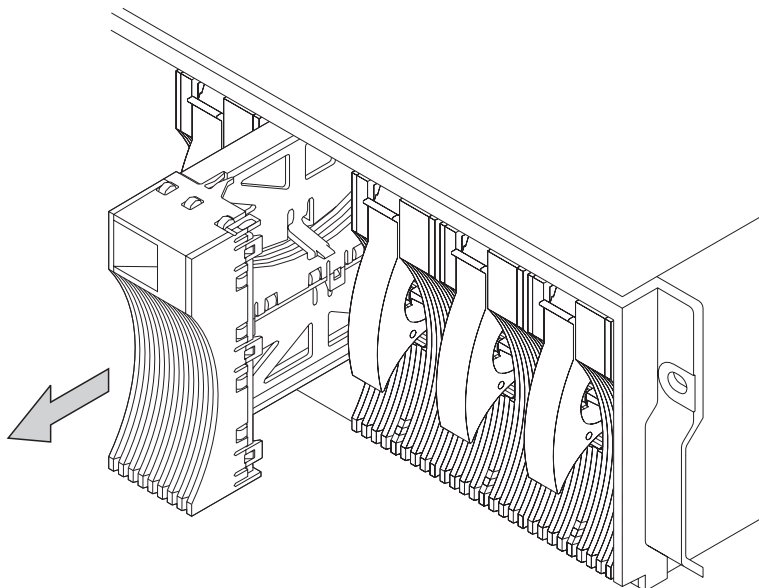

Figure 7. Removing a Dummy Disk Drive Module
9. You may also wish to remove the dummy disk drive modules. A dummy disk drive module has a simple handle. There is no latch to be pulled upward. Refer to Figure 7.